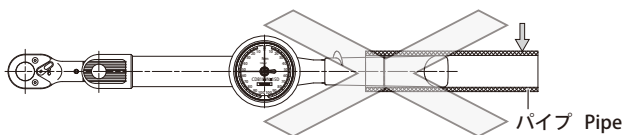

図1 Fig.1
トルクレンチの破損や精度異常の原因となります。(図1)
- Do not use pipes, cheater bars, or any kind of extension on the handle of the wrench. This will damage the wrench, and result in inaccuracy.(Fig.1)